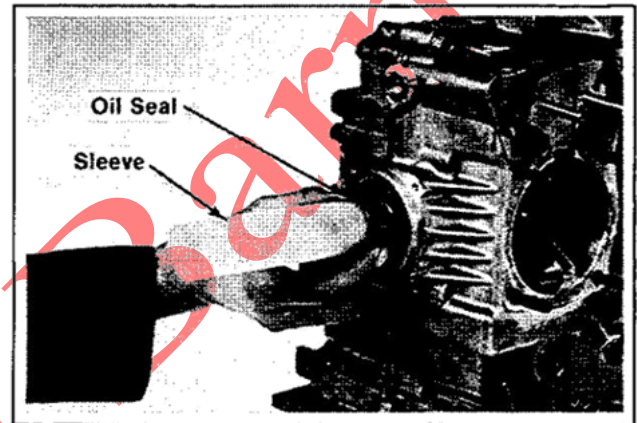

Figure 11-21. Installing Oil Seal Using Sleeve.
1. Slide the appropriate seal sleeve (refer to Section 2, Special Tools) over flywheel end of crankshaft. Generously lubricate lips of oil seal with light grease. Slide oil seal over sleeve. Refer to Figure 11-21.
1. Slide the appropriate seal sleeve over the PTO end of crankshaft. Generously lubricate the lips of oil seal with light grease. Slide the oil seal over sleeve. Refer to Figure 11-21.